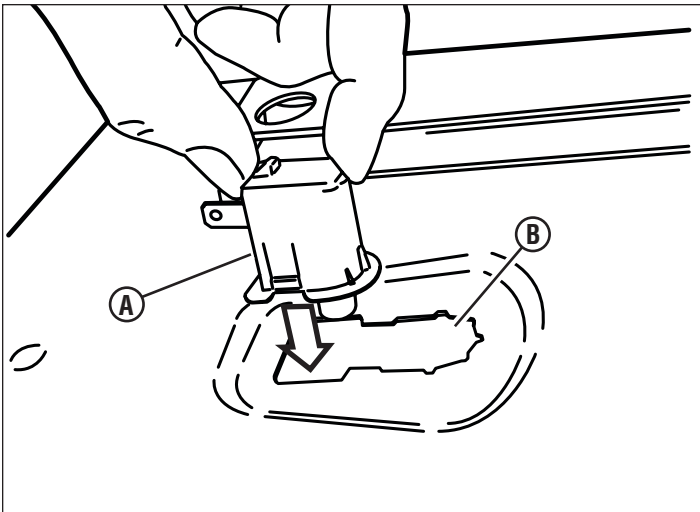

Figure 11
- A. Insert the seat switch (A, Figure 11) into the bottom of the seat (B).